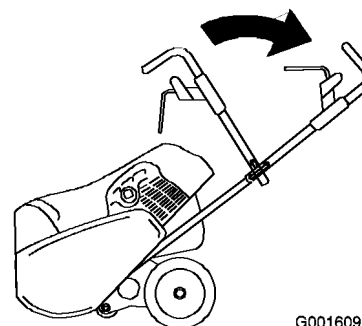

Figure 4
3. Rotate the upper handle to the operating position (Figure 4).